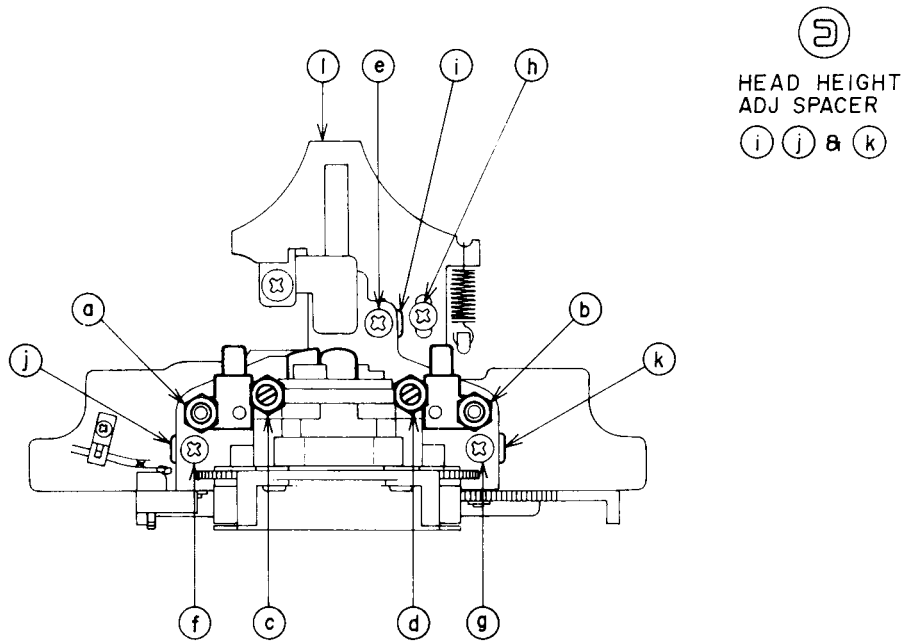

Fig. 6-2
- 2) Adjust the tape guides A and B by turning the tape guide height adjustment nuts **(a)** and **(b)** in Fig. 6-2, so that the tape runs smoothly by the lower edge of both tape guides, and the tape is not hitched by those tape guides.
6-4 HEAD BLOCK PROJECTION ADJUSTMENT (Refer to Figs. 6-2 & 6-3)